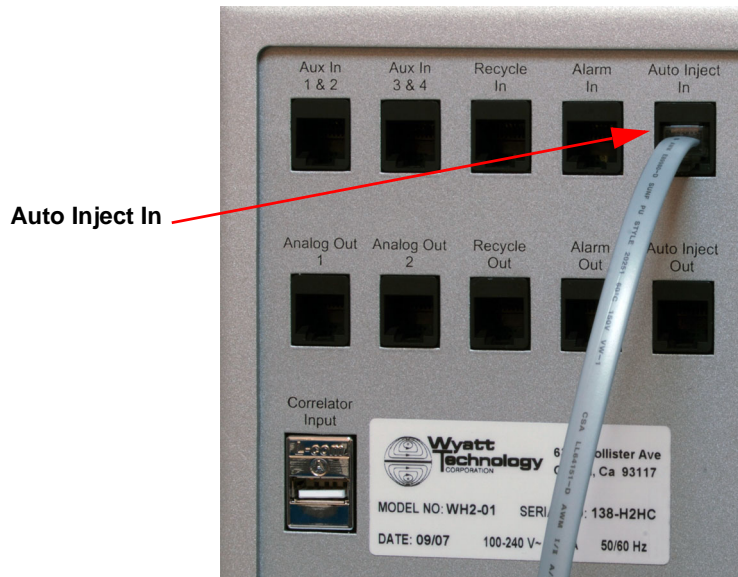

Figure 2-8: Wyatt Instrument back panel
4. **(Optional)** Using the provided RJ12 6P6C cable, connect the connector on the back of the DNDC Injector to the Auto Inject In connector on the back panel of the Wyatt instrument (see Figure 2-8). This contact closure signal will notify the software that an injection has been made.